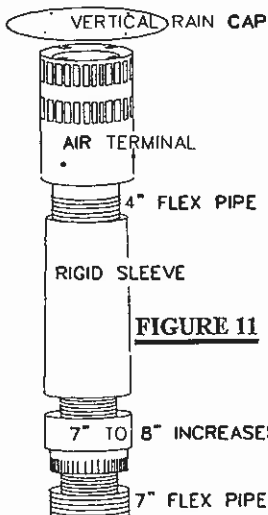

FIGURE 11
4. Slide the narrow end of the rigid sleeve 2" into the outer sleeve of the terminal. Secure and seal as before. Attach a 7 to 8 inch increaser to the telescoping sleeve. Secure and seal. Repeat using the 7" diameter flexible aluminum liner. Slide a minimum of 2" over the increaser. Secure with 3 #8 screws and seal. FIGURE 11.